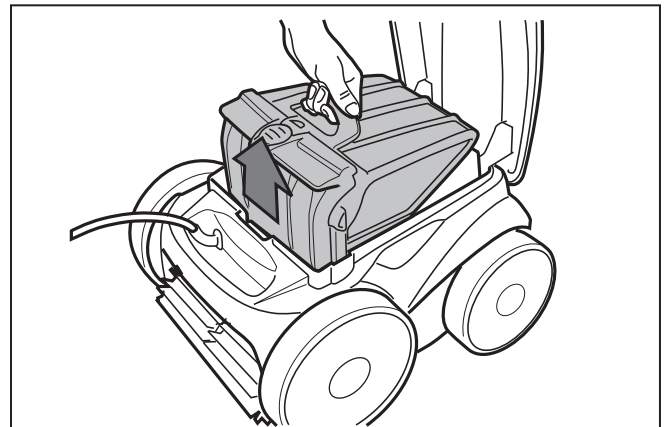

Figure 17. Remove the Filter Canister
5. Remove the filter canister assembly from the body (Figure 17).